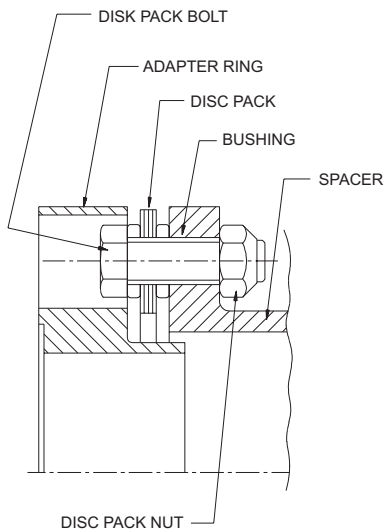

Figure 8. Bolt Disc Pack to Spacer.
6.5 Line up the bushings with the spacer reamed holes, lightly tap the bushings to start them in the holes. Install and tighten 3 disc pack bolts and nuts with bolt heads in the ring (see Figure 8).